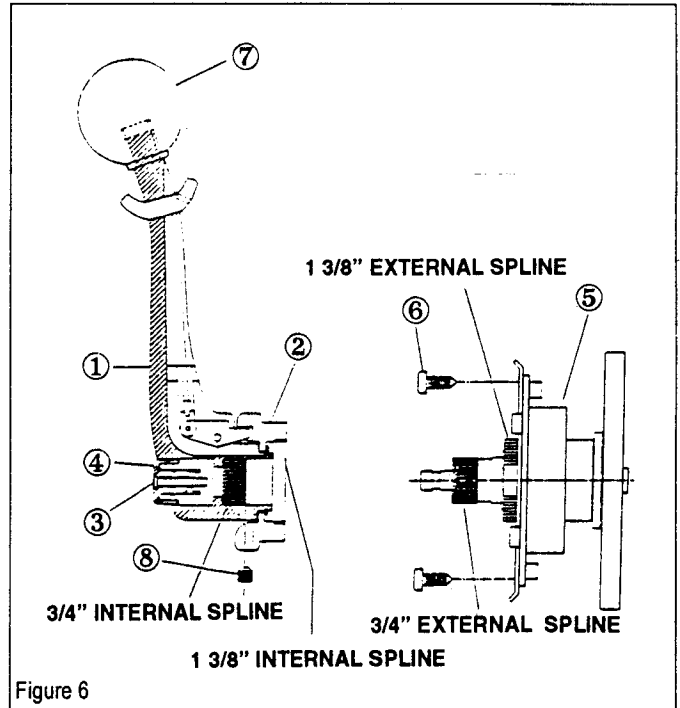

Figure 6
Once the mechanism has been securely mounted, the handle assembly may be attached to the control. The handle assembly contains two (2) sets of internal splines; one (1) on the chrome locking ring, and one (1) on the black handle. There are two (2) sets of mating external splines on the mechanism; one (1) on the cast housing and one (1) on the steel shaft. Each set of splines contains forty-eight (48) teeth and both sets of the 1 3/8" splines and 3/4" splines are consistently oriented to the other (See figure 6).